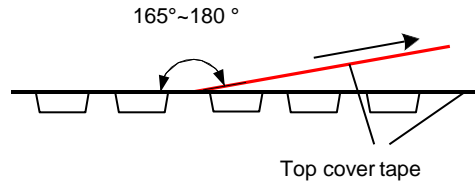

Fig. 9.1.4
- Peel-off angle: $165^\circ \sim 180^\circ$, refers to Fig.9.1.4.
- Maximum two (2) chip cavities missing product may exist in a reel but they may not be consecutive two cavities.